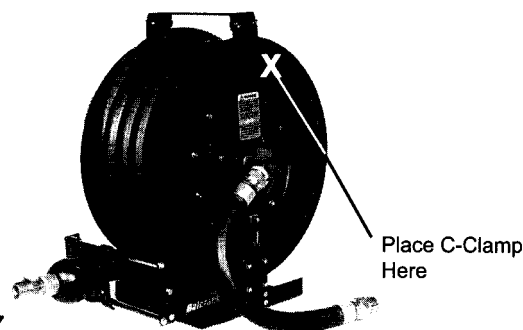

Figure 7
4. Before installing the hose, secure spool from accidental rotation by placing a clamp on the spool. See figure 7 for proper placement of clamp. This will keep the spool from rotating while installing the hose.